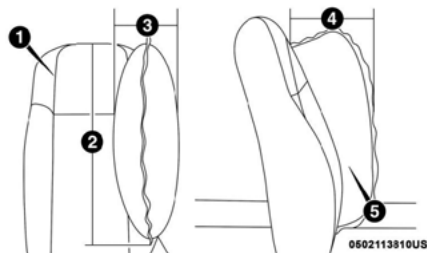

Figure 9 - Supplemental Seat Mounted Side Air Bag Deployment Zone, depicts the following:
4. Supplemental Seat-Mounted Side Air Bag (SAB) Deployment Zone (Figure 9)